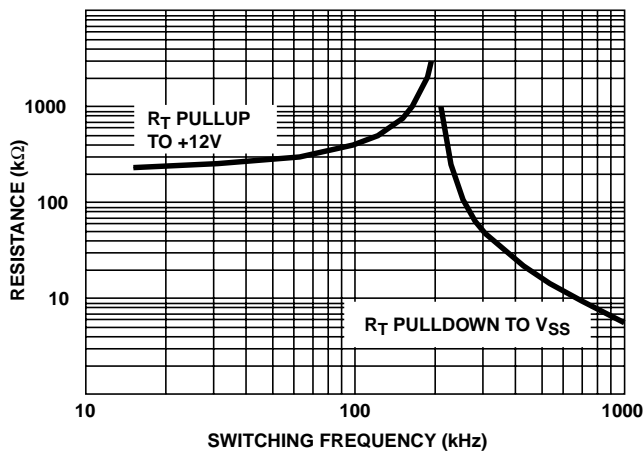

FIGURE 1. RT RESISTANCE vs FREQUENCY
## Electrical Specifications Recommended Operating Conditions, Unless Otherwise Noted. Refer to Figures 1, 2 and 3
**Electrical Specifications** Recommended Operating Conditions, Unless Otherwise Noted. Refer to Figures 1, 2 and 3 **(Continued)**